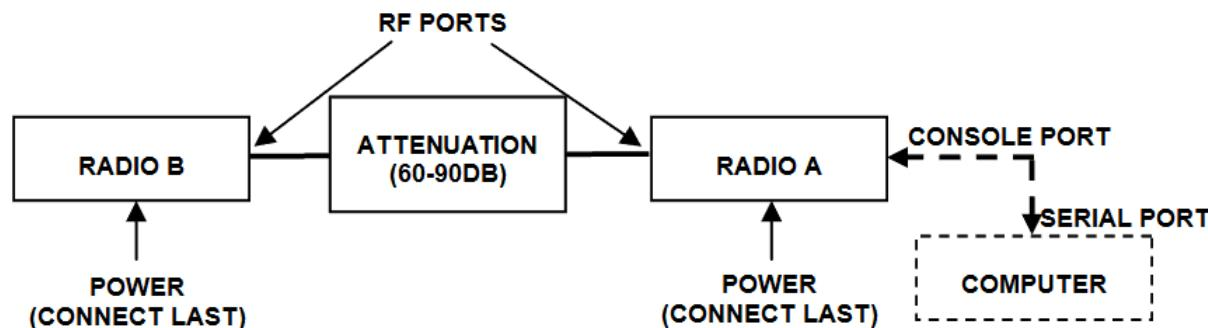

Figure 59 Basic back-to-back bench test configuration
- 1 Connect attenuation and (known-good) RF cable(s) between radio pair, shown in Figure 59.
Connect the system as shown in Figure 59, using the combination of fixed and variable attenuation between the radio's RF ports. Connect the volt meter to either radio's RSL test point and associated reference ground connection.